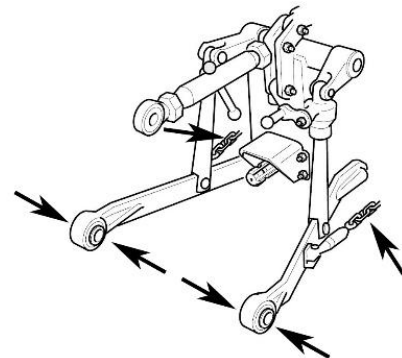

Figure 9: Securing the three-point linkage of the tractor
- Manually lock the arms of the tractor's three-point linkage. They should be secured to prevent transversal movement of the machine (Figure 9).